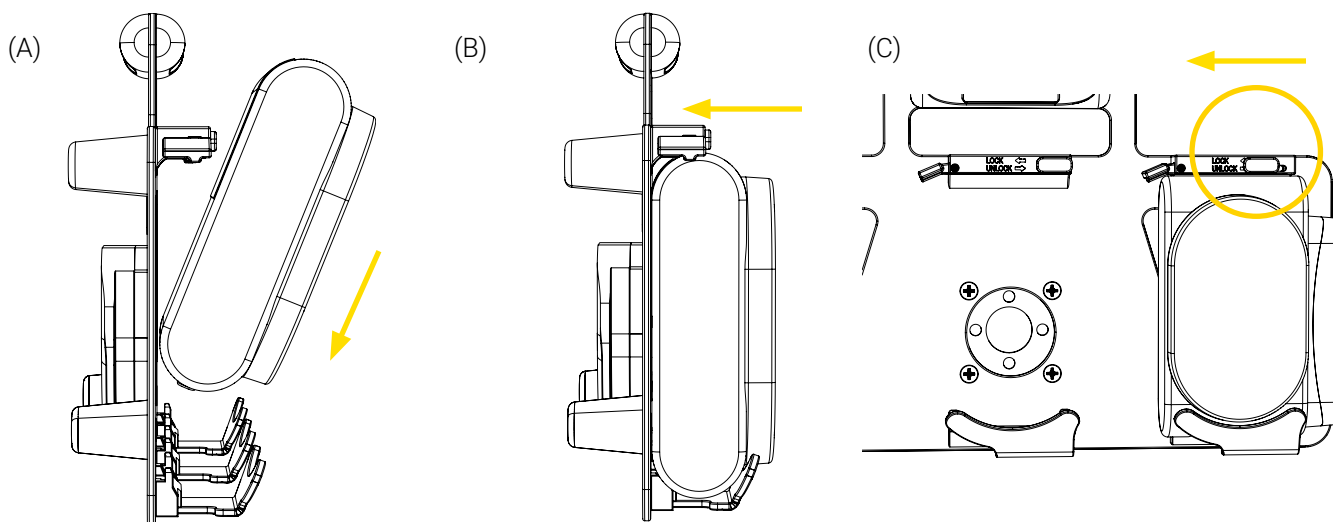

Figure 4: Infusion pump installation (2 of 2)
3. Angle the pump and lean it against the front fold of the pump holder, aligning the cavities with the inserts at the bottom of the pump holder (Figure 4 A).
4. Tilt the pump in an upright position in the pump holder, until you hear the click sound of the quick release mechanism engaging (Figure 4 B).
5. Move the lock/unlock slider button to the left until you hear the click sound of the locking mechanism engaging (Figure 4 C).